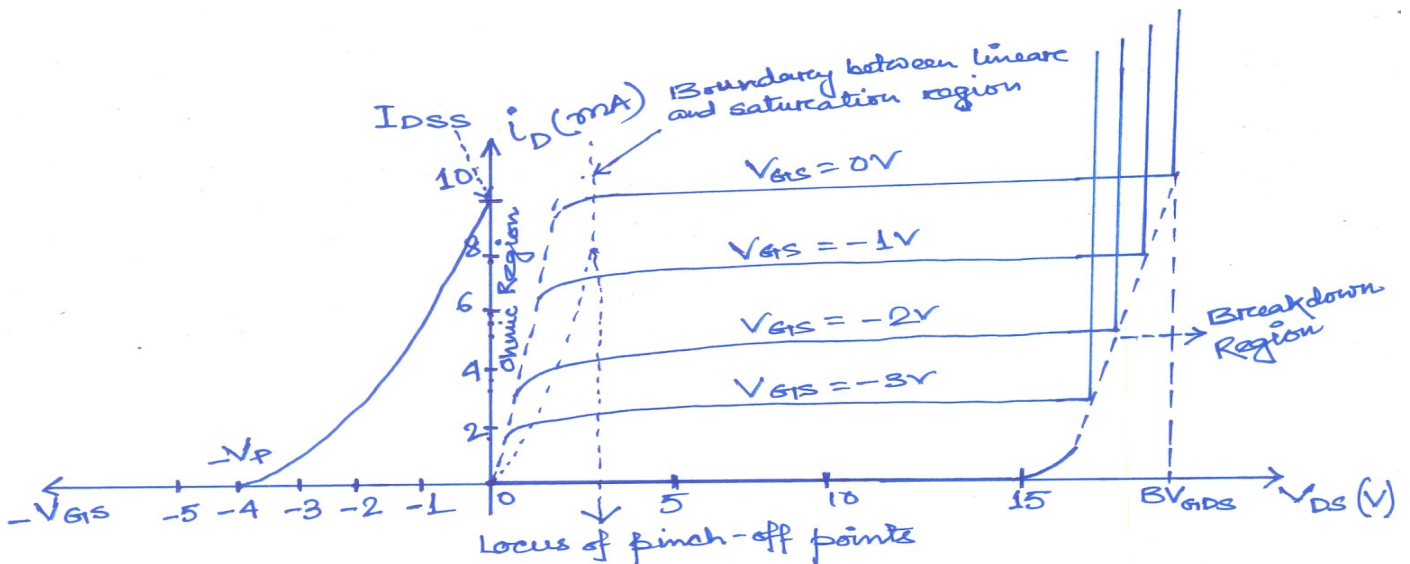

Fig. 4.8: Drain ( 1st Quadrant ) and transfer characteristics ( 2nd Quadrant ) of n-channel JFET
**Graphical determination of transfer characteristics** :If saturation current is plotted for particular value of  $V_{GS}$ , transfer characteristics is obtained as shown in fig . 4.8 . It is seen that if  $V_{GS}$  reaches to pinch-off value no current flows through the device . And device enters into cut-off region.